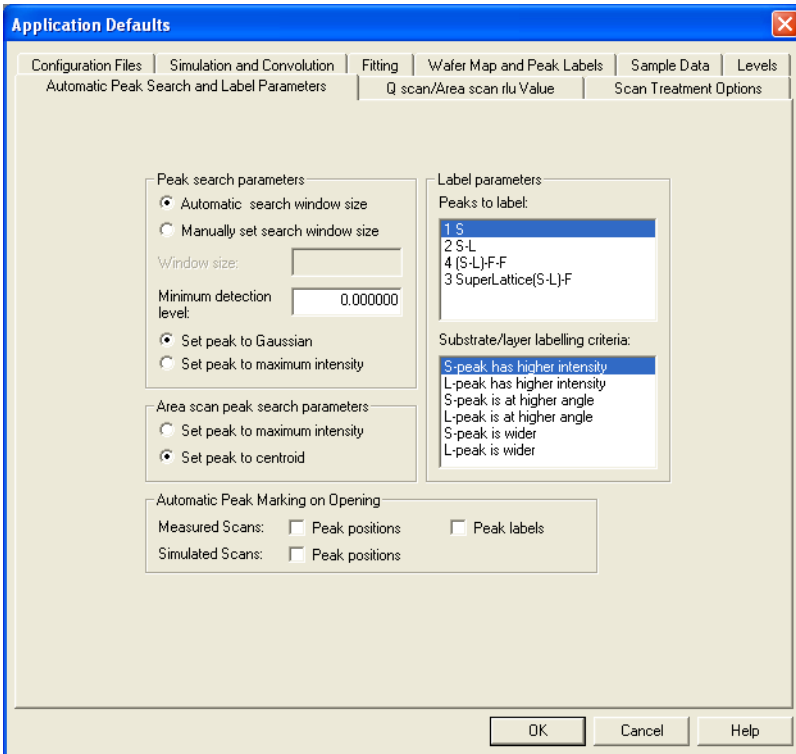

Figure 4-1: The Automatic Peak Search and Label Defaults Setup for Finding One Peak
- Use the options shown in Figure 4-1: